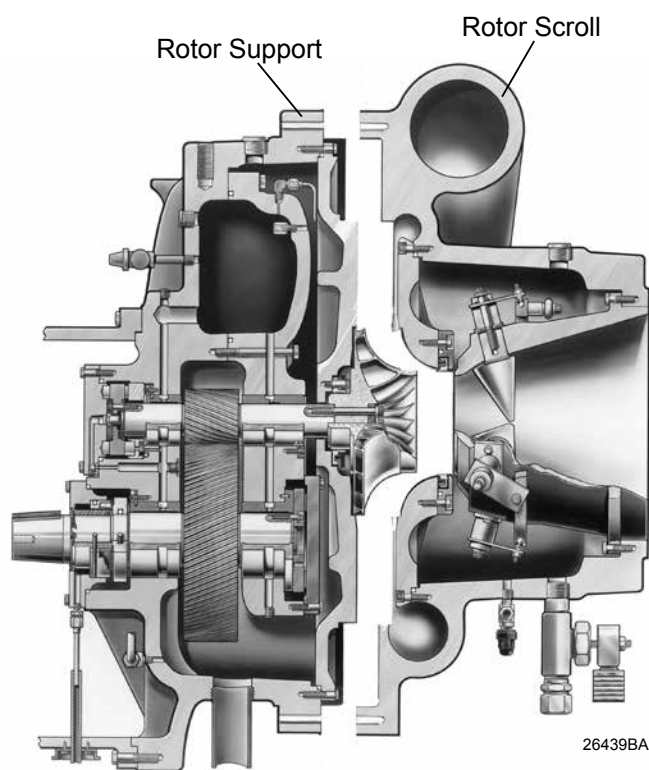

FIGURE 13 - DISASSEMBLY OF ROTOR SUPPORT FROM THE ROTOR SCROLL
4. Remove (2) of the 12-pt. cap screws holding the rotor support to the rotor scroll. Insert guide pins in place of the (2) cap screws.
6. Use (3) of the cap screws as jacking screws in the tapped holes provided to loosen the rotor support from the rotor scroll (see *Figure 13 on page 24*). Carefully pull the rotor support out of the rotor scroll. Rotate the shaft by hand when removing the rotor support to prevent damage to the impeller inlet seal ring.